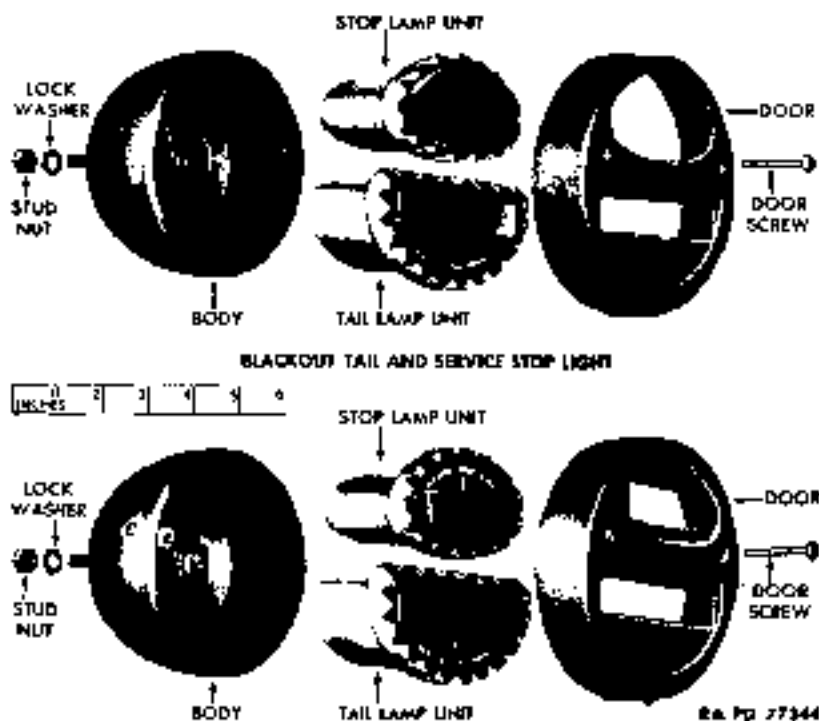

Figure 101 - Tail and Stop Lights Disassembled
(1) **DESCRIPTION** (fig. 101). The blackout tail and service stop light is attached to the frame rear crossmember at the left of the pintle hook. It contains two sealed beam lamp-units, each unit consisting of a lens, lamp, and reflector replaceable only as a unit. The blackout
(1) **DESCRIPTION** (fig. 101). This light is attached to the frame rear crossmember at right of pintle hook, and is similar to the blackout tail and service stop light, except that the blackout stop light emits a small triangle of shielded light visible only from rear.